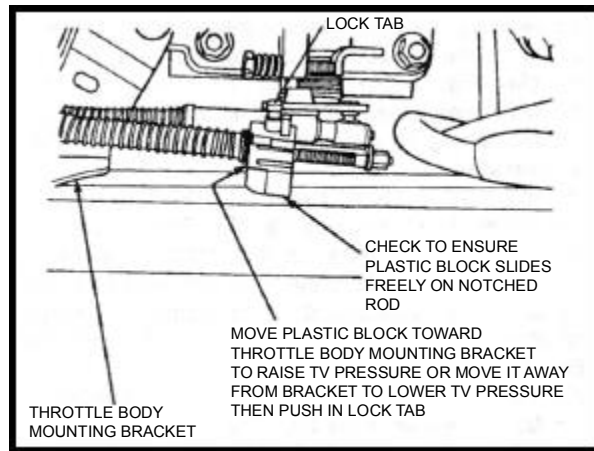

FIGURE 21
7.12 Using mark or measurement on the plastic block as a reference, move plastic block towards throttle body mounting bracket to raise TV pressure, or move it away from bracket to lower TV pressure. Push in white locking tab to lock block in position. (See Fig. 21).